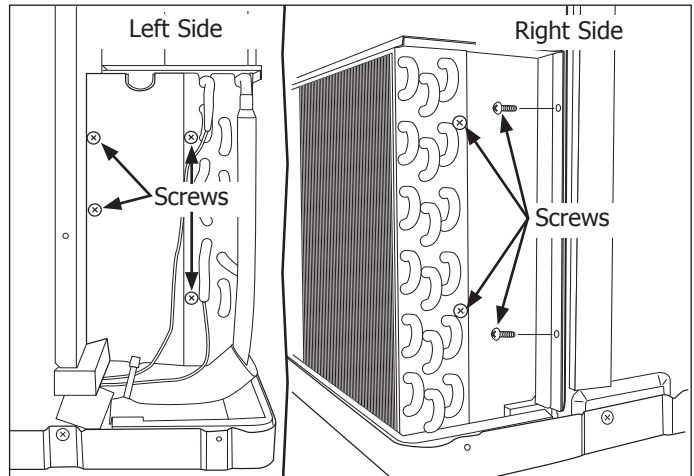

Figure 4-42.
5. Extract the 4 screws from each side of the evaporator securing the front scroll cover to the evaporator and front bulkhead partition. (See Figure 4-42)